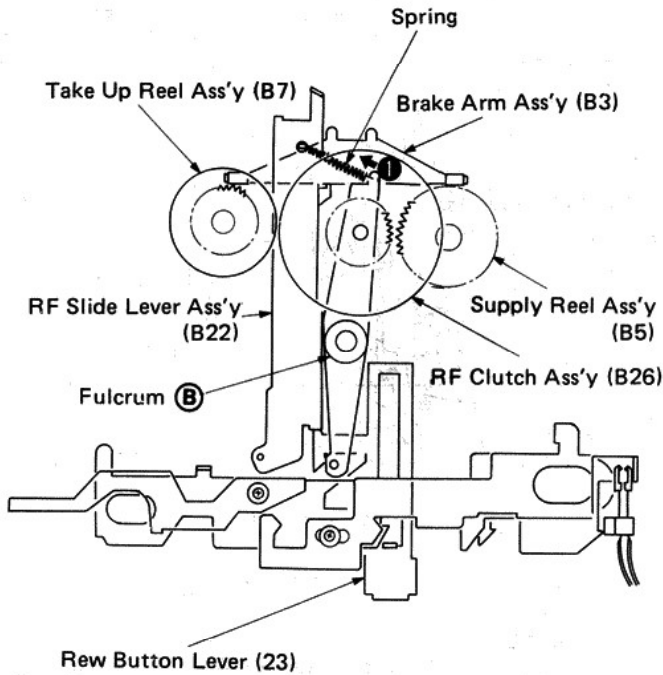

Fig. 22
- 1 Fig. 22 shows the conditions of the REW-related mechanism in the STOP mode.
- 2 The RF clutch assembly (B26) is pulled by the spring in direction ❶ based on the fulcrum ❷.
- 3 On the other hand the brake arm assembly (B3) also keeps contact with the take-up reel assembly (B7) and the supply reel assembly (B5), and is in the braked condition. (Fig. 22)